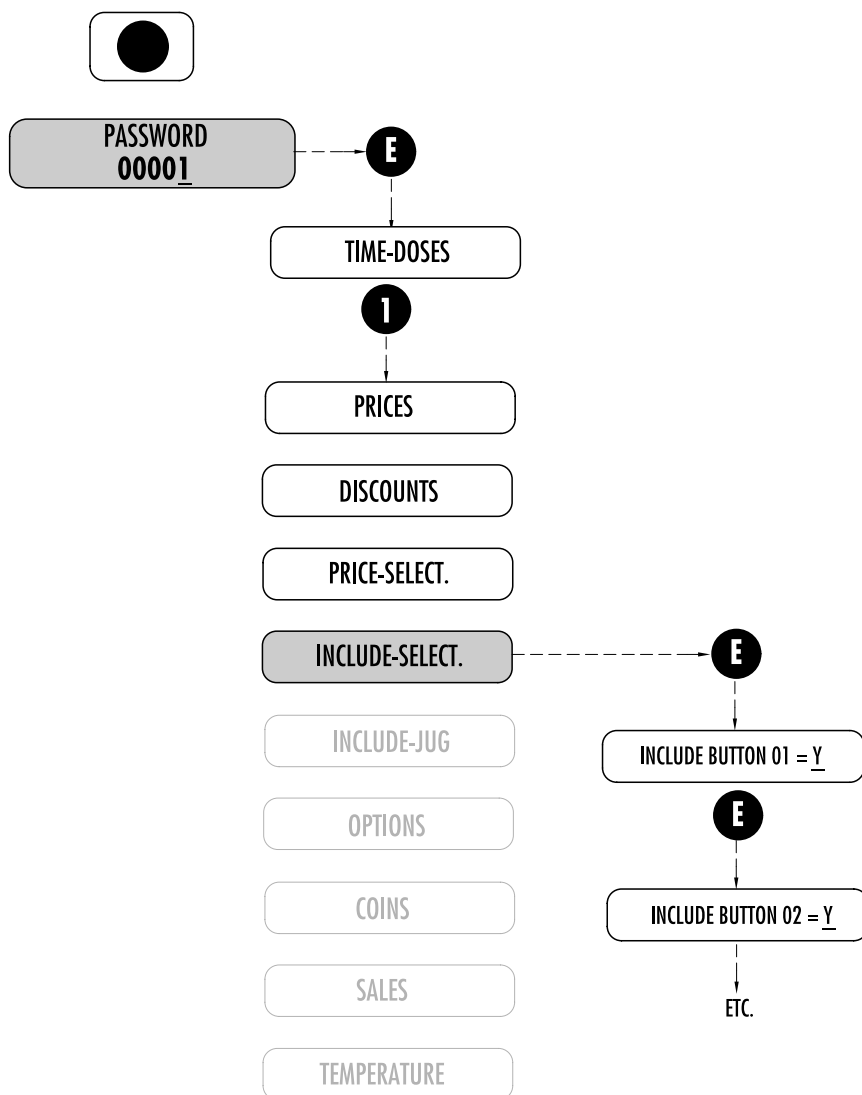

Fig. 7.8
7.2.5 INCLUDE -SELECTIONS (FIG.7.8)